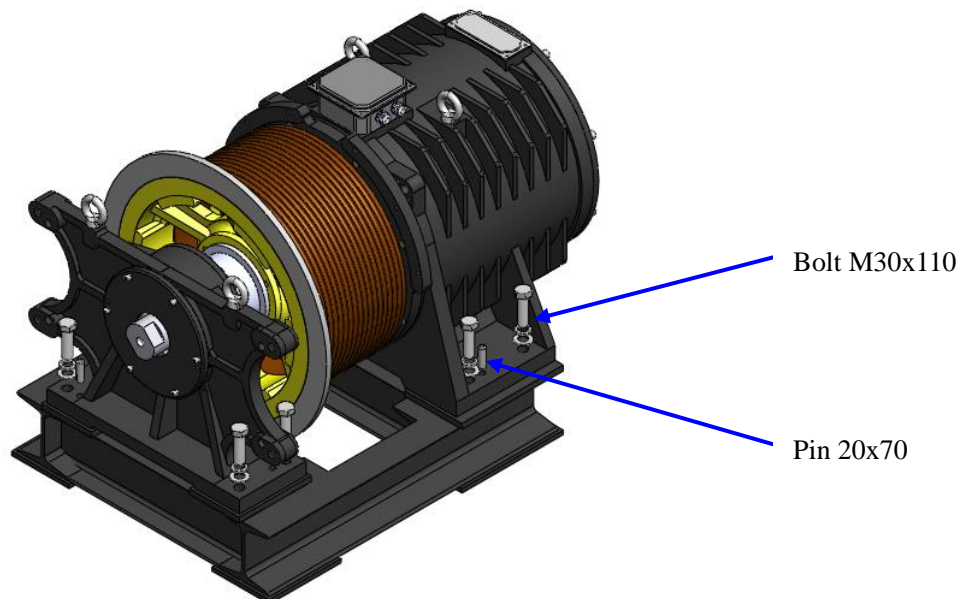

Figure 75: Separate Machine from base
4. Loosen the bolts M30x110 (8 pieces) with end wrench (46mm). Loosen the pin 20x70 (4 pieces). See Figure 75.